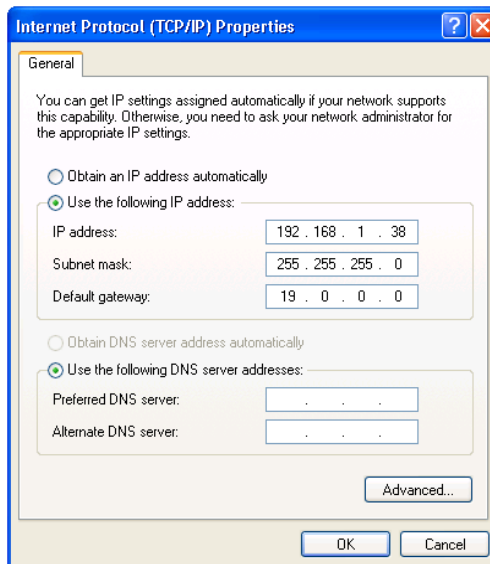

Figure 7: Internet Protocol (TCP/IP) Properties Window
6. Select **Use the following IP Address** and enter the details as shown in Figure 7.